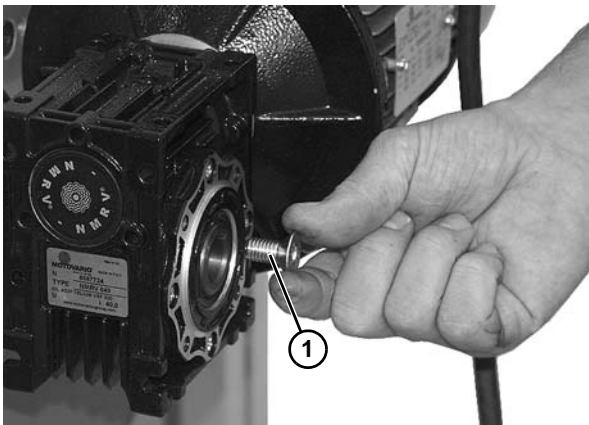

Figure 73
12. Install and tighten flat head screw (**Figure 73, item 1**) onto the drive shaft.